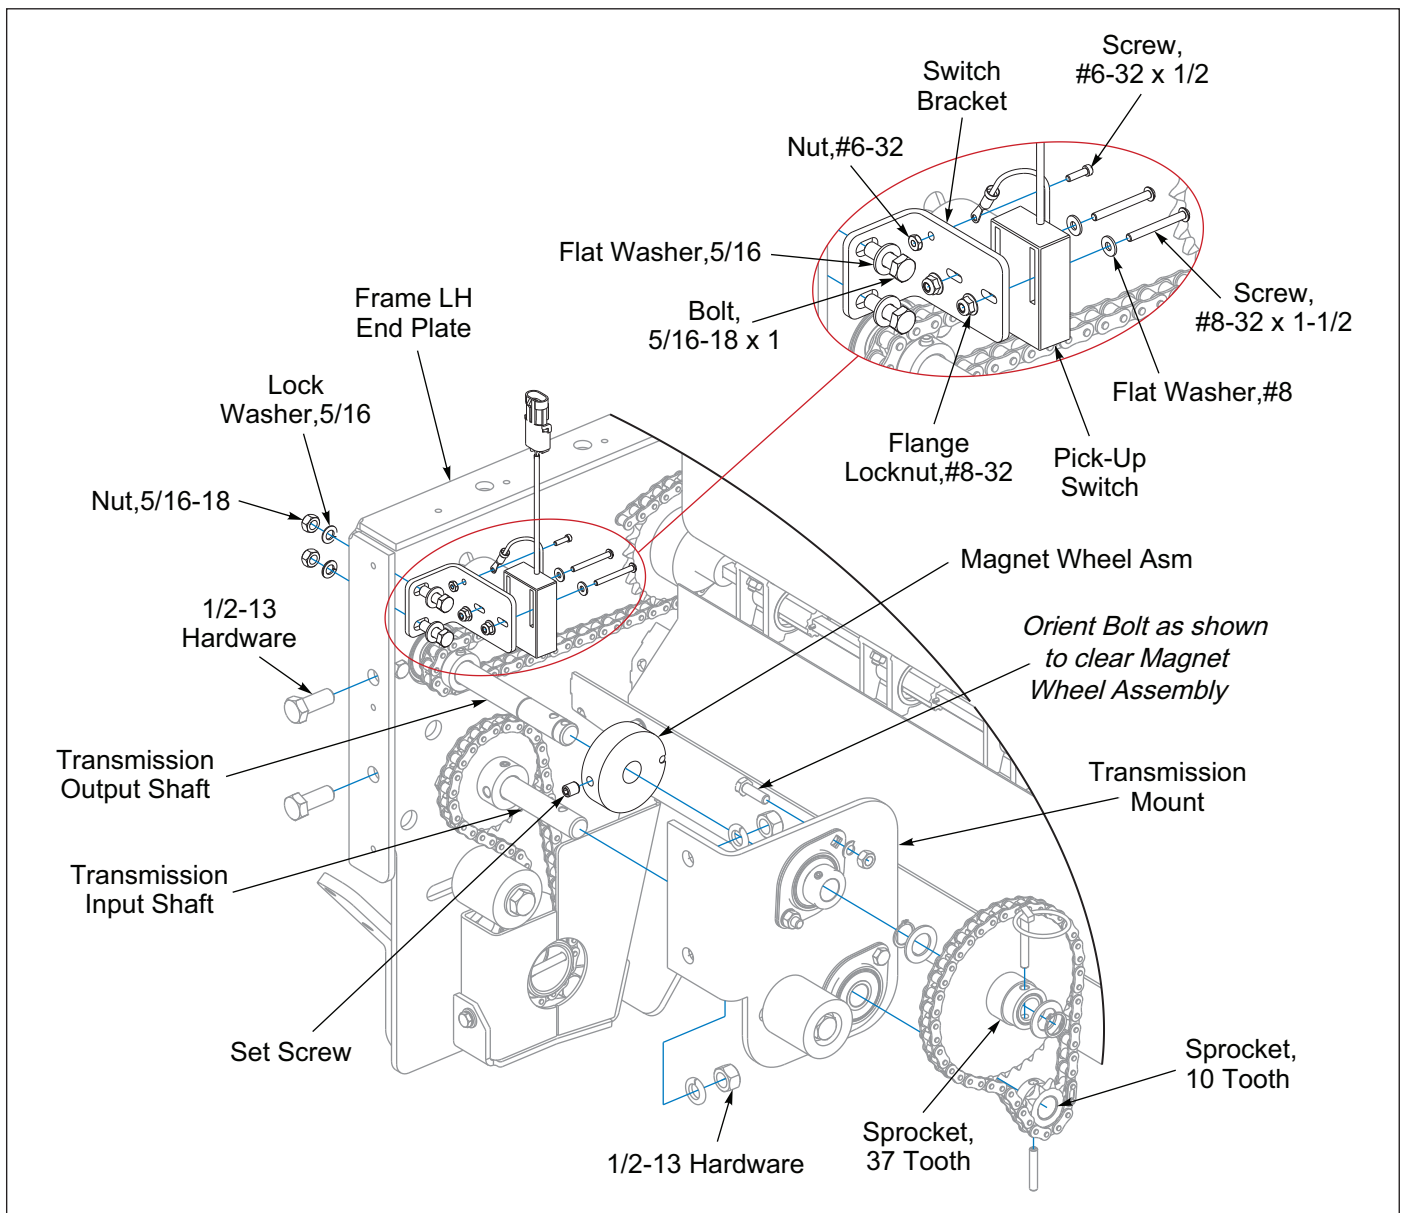

Figure 2-16: Kit 210914
1. Remove from the end of the Transmission Output Shaft the 37 Tooth Sprocket and related Hardware. **See Figure 2-16.**